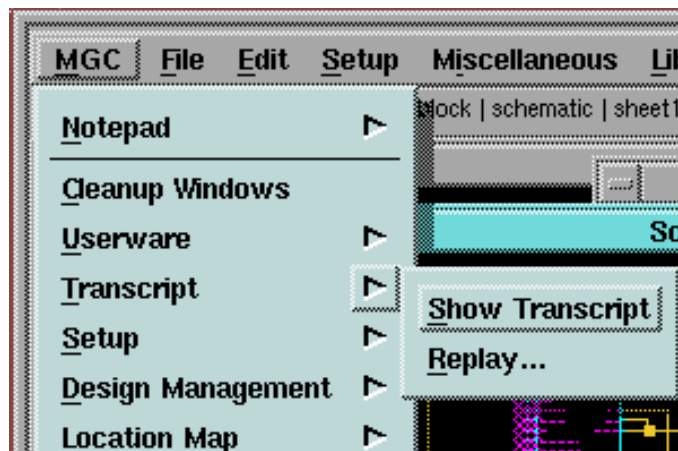

Figure 2-50. MGC > Transcript Menu
3. Choose the **MGC > Transcript > Show Transcript** pulldown menu item shown in Figure 2-50.